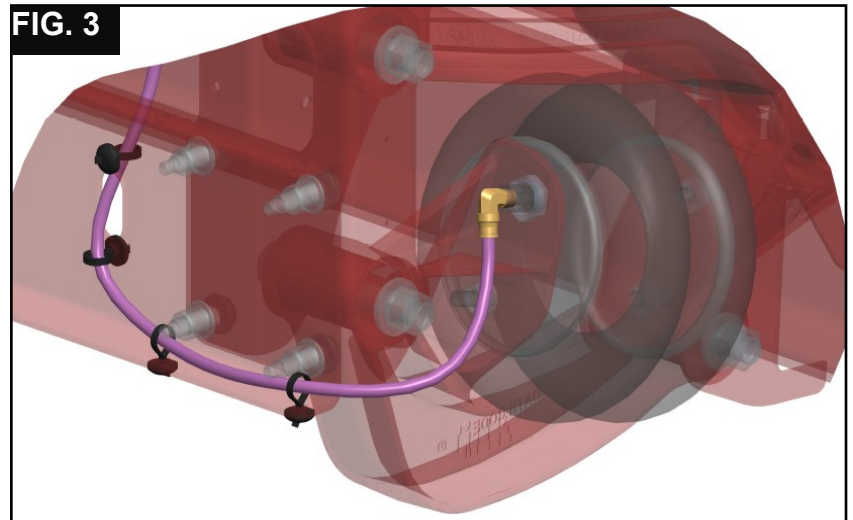

FIG. 3
- J. Connect the lift springs to the lift axle control module using 3/8" purple airline and elbow fittings (2x Item 14). See **FIG. 3** for recommended routing.